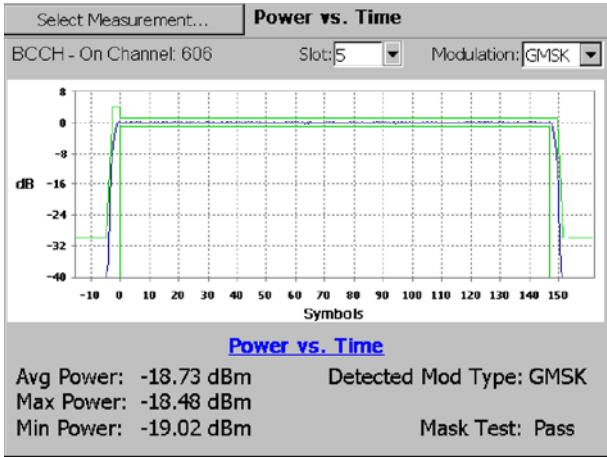

Figure 3-41: GSM/EDGE Power vs. Time measurement
4. Tap **Power vs. Time**. See Figure 3-41.